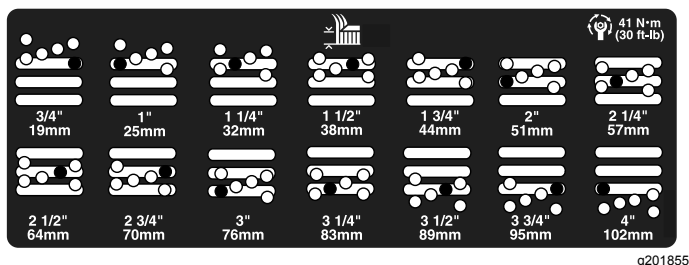

Figure 25
5. Move the chamber to the desired height of cut and install a spacer into the designated height-of-cut hole and slot (Figure 25).